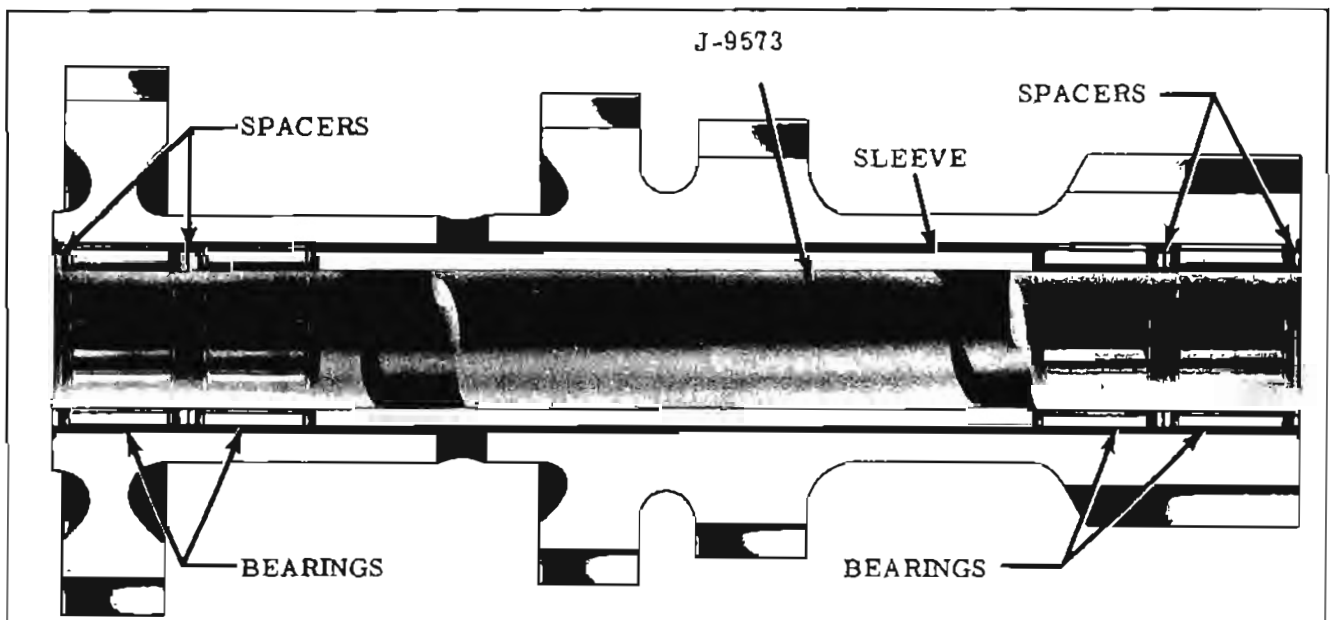

Fig. 11-227 Loading Counter Gear Parts
- 2. Using tool J-9573, load the sleeve, bearings, and spacers in order shown in Fig. 11-227.